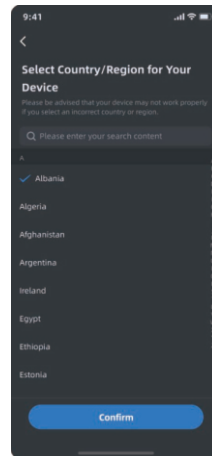

Figure 2
2)Figure 2: Select the country/region where the device will be used and click "**Confirm**".